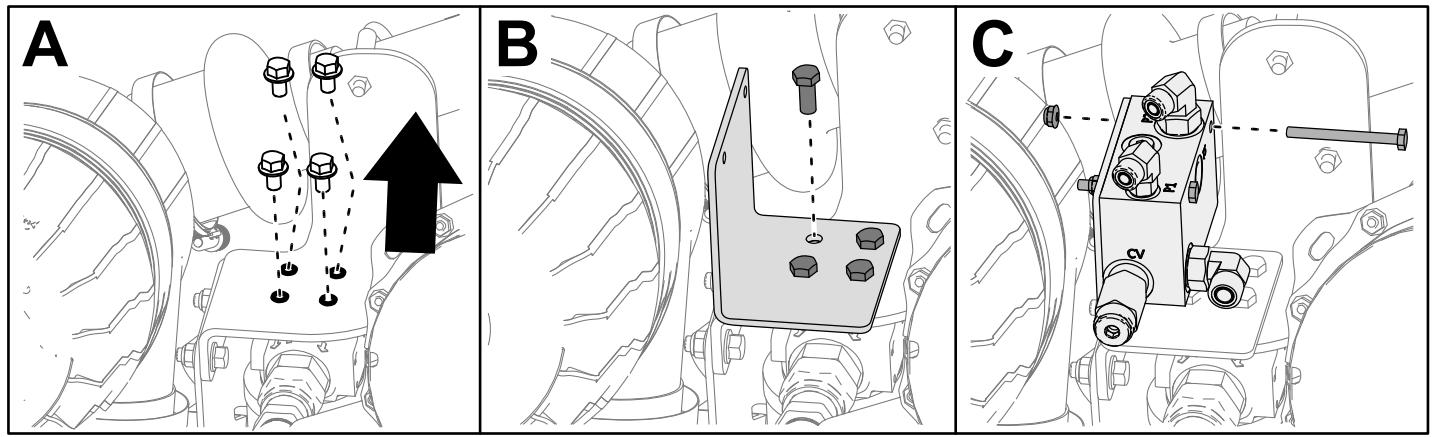

Figure 3
4. Remove and discard the bolts on the charge filter mount (Box A of Figure 3).
5. Install the bracket using 4 bolts (3/8 inch) as shown in Box B of Figure 3.
6. Install the manifold and fittings onto the bracket using 2 bolts (1/4 x 2-3/4 inches) and 2 nuts (1/4 inch) as shown in Box C of Figure 3.